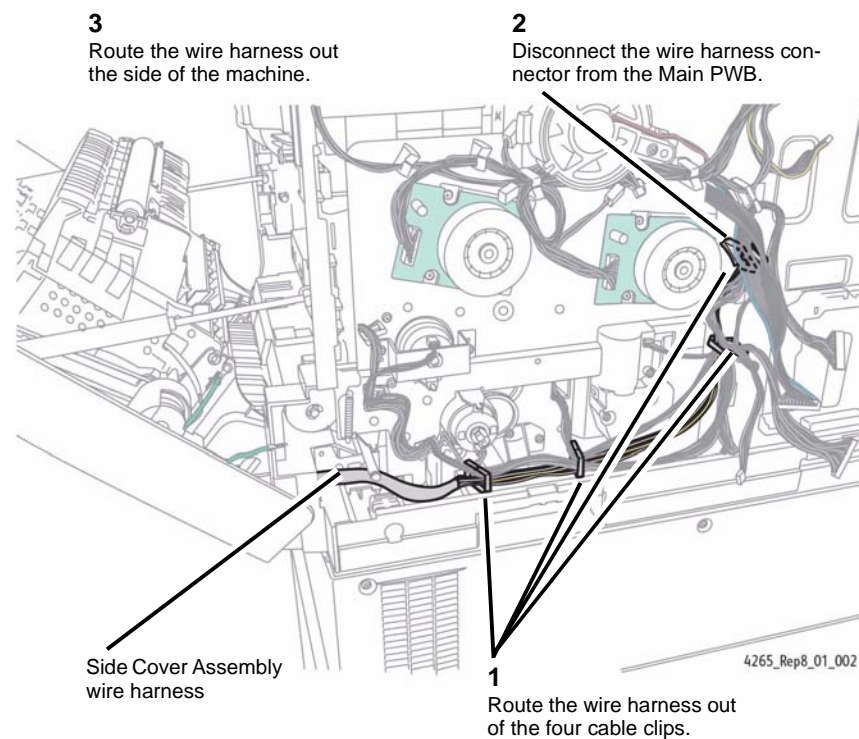

Figure 2 Preparing to Remove the Side Cover Assembly
4. Prepare to remove the Side Cover Assembly (Figure 2).